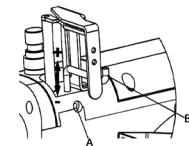

图12(Fig.12)
2.Adjustment.(Fig.12) The position for Needle thread Take-up Lever (B) is adjustable according to thread used. Loosen screw (A) ,move lever (B) up and down for the optimum position .For instance ,when using high extension thread ,move lever (B) upward to make a bigger needle thread loop for lower to chain easily.